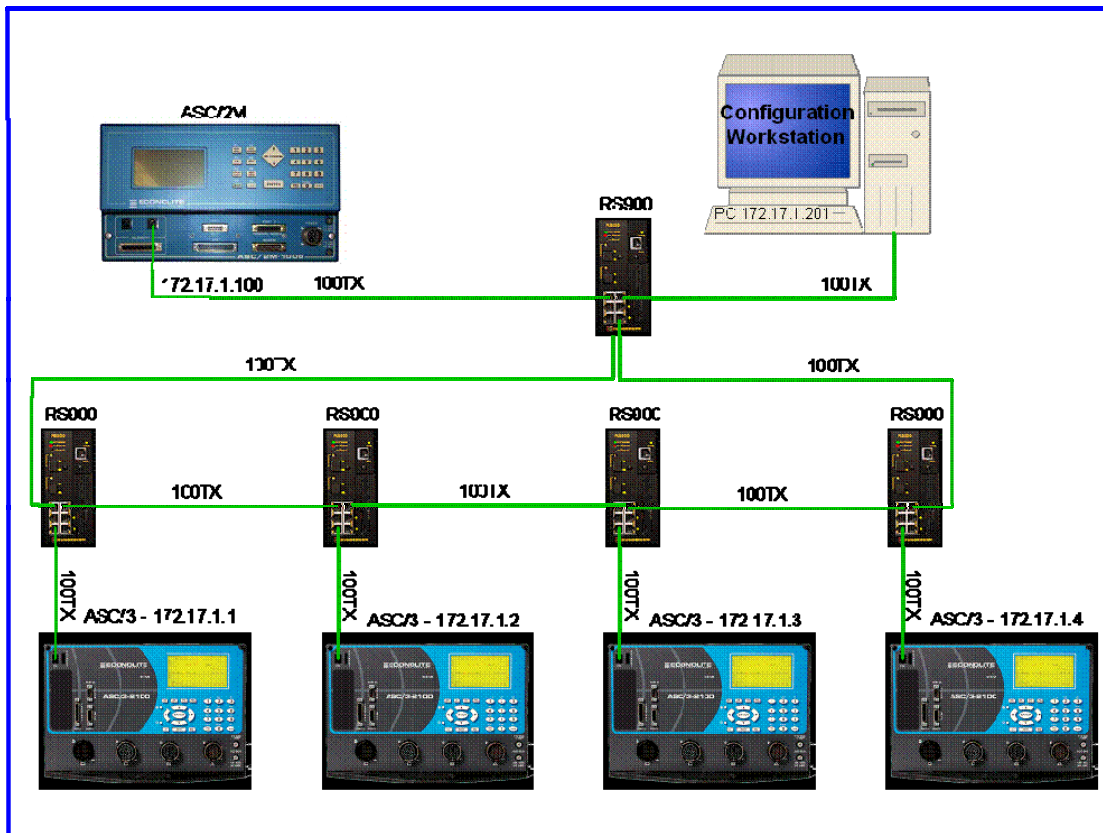

Figure 1. ASC/2M-1000 to ASC/3 Ethernet Connection
Figure 1 shows the basic design discussed in this document—an ASC/2M-1000 connected to four ASC/3 locals.
The hardware listed here is shown in Figure 1 (not all hardware shown is listed).
- If you have not connected your hardware yet, please do that now following the example in Figure 1 on Page 1.